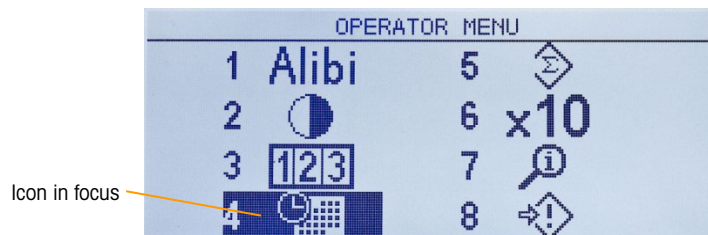

Figure 2-3: Operator Menu Display
To access the operator menu, press the MENU key . The display will change from showing the normal weigh display to an array of icons (Figure 2-3). The icons included depend on the terminal's configuration – for details, refer to Table 2-5.
- When focus is in the left column, as in Figure 2-3 and Figure 2-4, pressing the LEFT arrow key will exit the **SETUP** menu and display the **OPERATOR** menu.
For instance, from the screen shown in Figure 2-3, pressing ENTER or pressing 4 displays the **Time & Date** setup screen.
When all the time and date values are correctly set, press the LEFT arrow key to return to the Operator Menu (Figure 2-3).